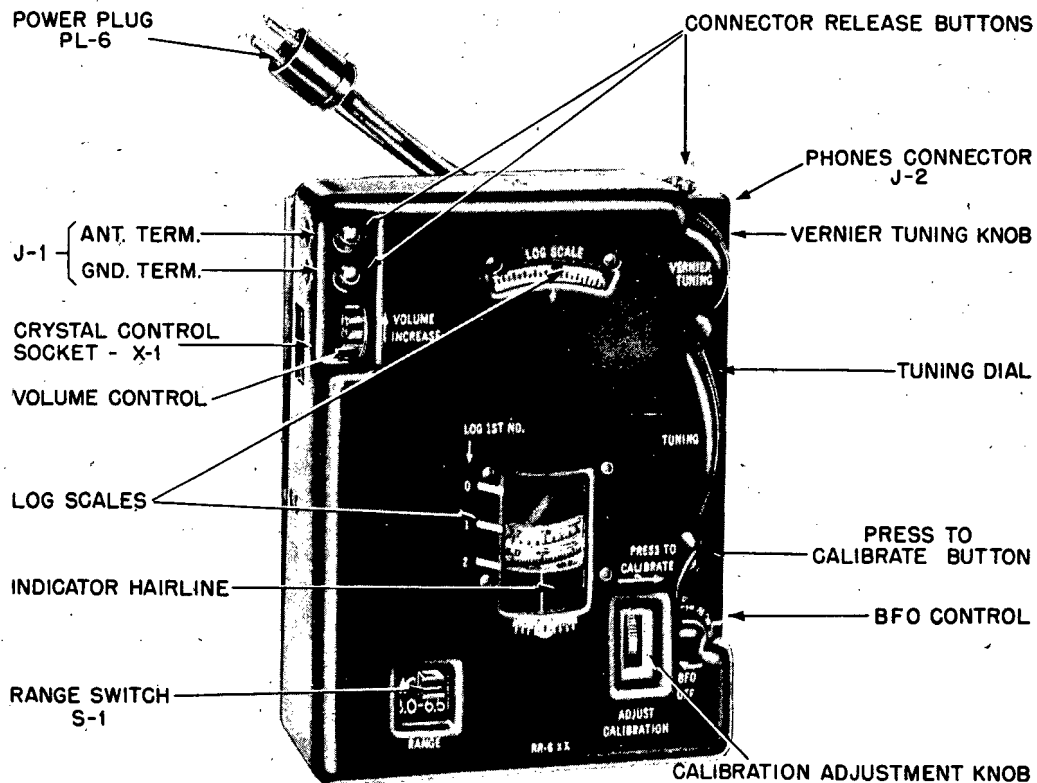

Figure 11. Receiver RR-6-XX showing control locations
### 1. CONTROLS & FUNCTIONS (See Figure 11)
e. When setting the receiver to a desired frequency, first turn ADJUST CALIBRATION (Figure 11) until the hairline coincides with the closest calibration point.
a. Set RANGE switch (Figure 11) for proper frequency band - "red" for high band (6.5 to 15 mc) and "blue" for low band (3 to 6.5 mc).
a. Plug specified crystal in CRYSTAL CONTROL socket (Figure 11). NOTE: Oscillator frequency is 455 kc higher than the received frequency.